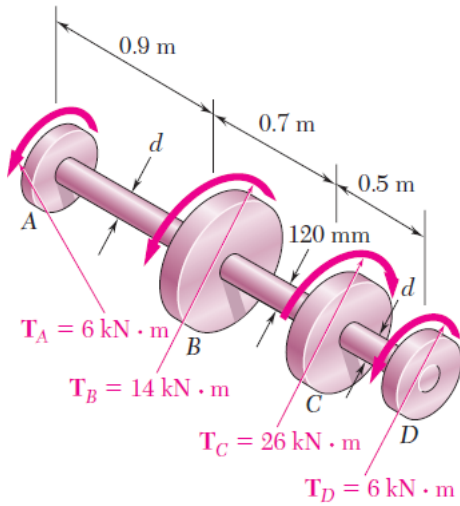

Fig 3
- b. Shaft *BC* is hollow with inner and outer diameters of 90 mm and 120 mm, respectively. Shafts *AB* and *CD* are solid and of diameter *d*. For the loading shown in Fig 3, determine